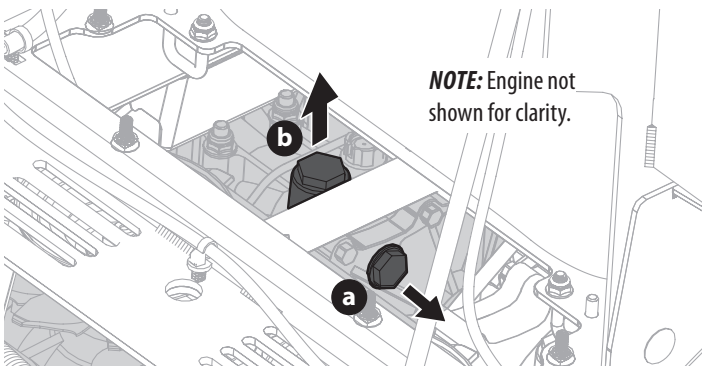

Fig. 28
2. Remove the top port plug (a) (on side of housing) to allow venting during oil fill (Fig. 28 on page 21).
3. Remove the fill port plug (b) (on top of housing) (Fig. 28).
4. Fill transaxle with oil through the fill port plug (b) until oil flows out of the top port plug (a) (Fig. 28).